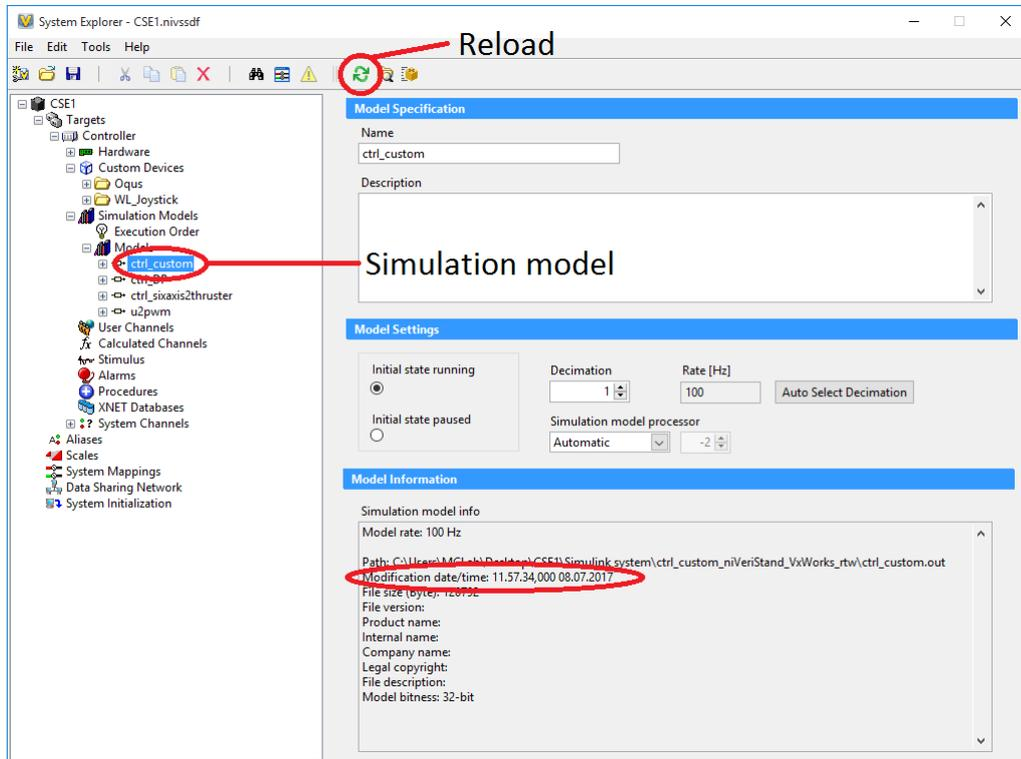

Figure 2.6: System Explorer window
3. Navigate to the `ctrl_custom` Simulation Model, verify the modification date/time is correct (time stamp from when you compiled the simulink model) and then press Reload as illustrated in Figure 2.6.